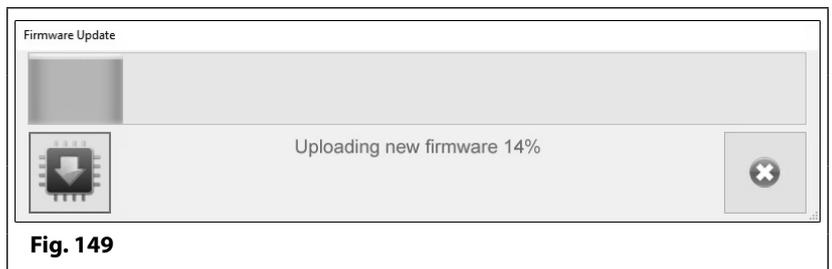

Fig. 149
- Next click on the **OPEN** button and the latest firmware update will be uploaded to the GSM intercom, as shown in **Fig.149**.